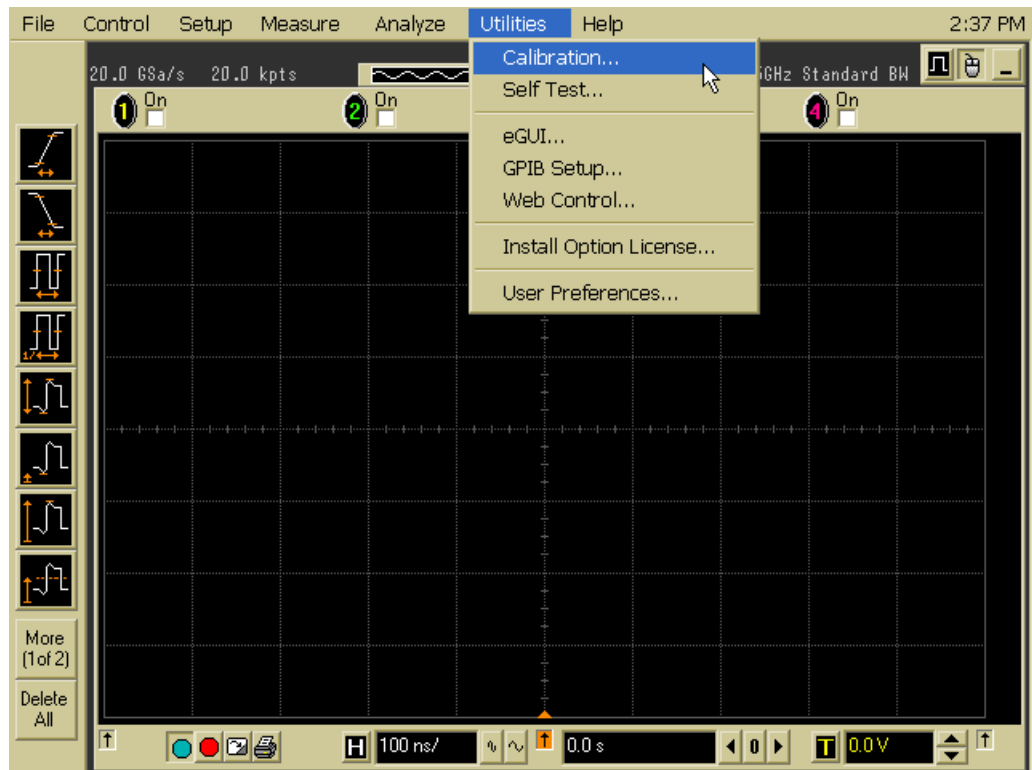

Figure 12 Accessing the Calibration Menu.
- 2 Referring to Figure 12 below, perform the following steps: